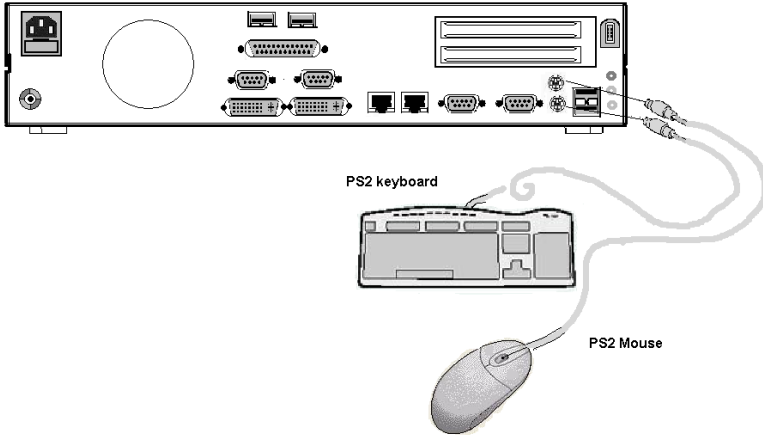

*Figure 2.4: Connecting the power cord*
1. Connect the female end of the power cord to the AC inlet of the MDPC-4090. (See Figure 2-4.)